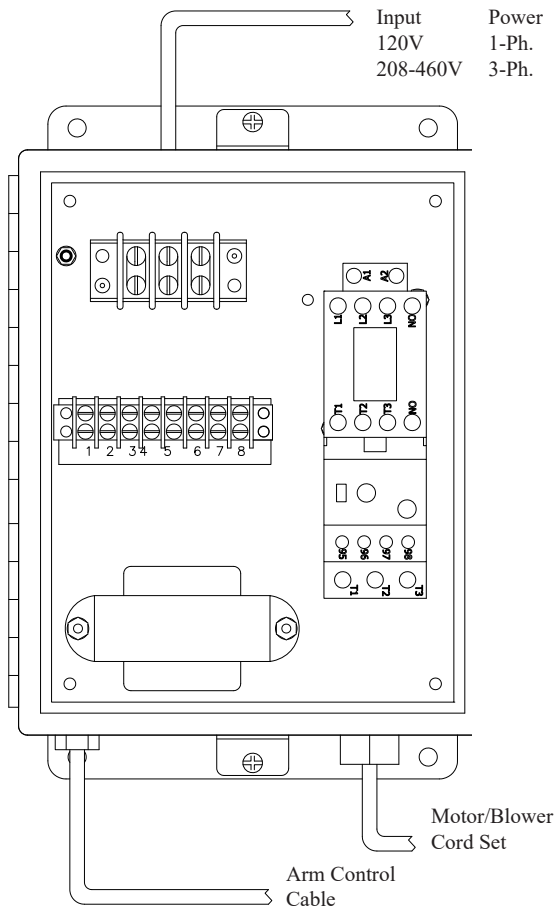

Fig. 5
2. Connect the motor/blower power cord to the electrical control box (Fig. 5). The power cord is pre-wired to the motor blower.
5. Connect the arm control cable to the electrical control box (Fig. 5). The arm control cable is pre-wired for turning the lamp on and/or the motor/blower on.
6. Connect input power to the electrical box at the labeled terminal strip. Refer to specific wiring diagrams and Fig. 5 for details. Be sure to ground input to the electrical control box per local electrical codes.